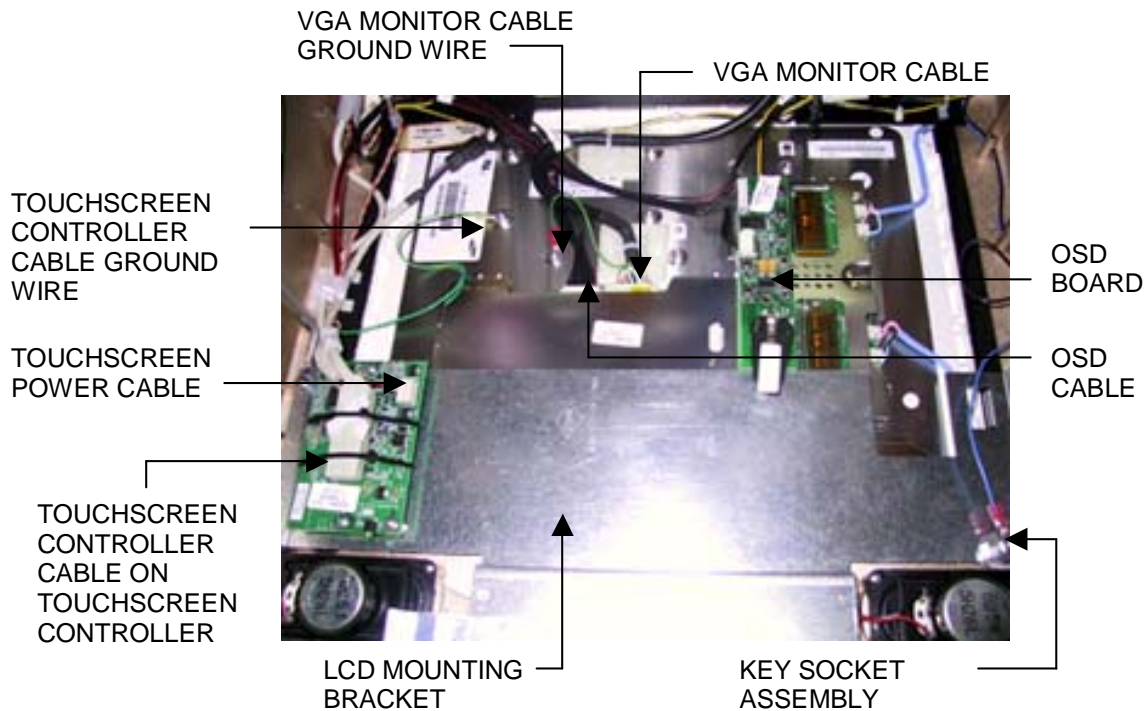

FIGURE 1 - CLOSE-UP OF CPU SECTION
3. Remove the screw and washer fastening the strain relief cord, then remove the remaining 5 screws fastening the LCD mounting bracket to the game. The key socket ground wire will also be removed in the process. See Figure 1.
4. Remove the nut, wire and bolt from the key socket assembly located on LCD mounting bracket, then remove the bracket. See Figure 1.
5. Carefully cut the tie wraps around the VGA monitor cable and remove the ground wire. Disconnect the cable from the monitor and the motherboard. See Figure 1. Unscrew the bracket on the underside of the I/O board to release the cable.
6. Remove the OSD cable from the twist clamp and disconnect it from the OSD board and the monitor. Then remove the OSD board from the Velcro attached to the back of the monitor and set it aside. See Figure 1.
8. Carefully cut the tie wrap around the touchscreen controller cable and disconnect the cable from the touchscreen controller. Also remove the ground wire. See Figure 1.
9. Disconnect the touchscreen power cable from the touchscreen controller (see Figure 1), then disconnect the Molex connector identified by the orange and gray wires.